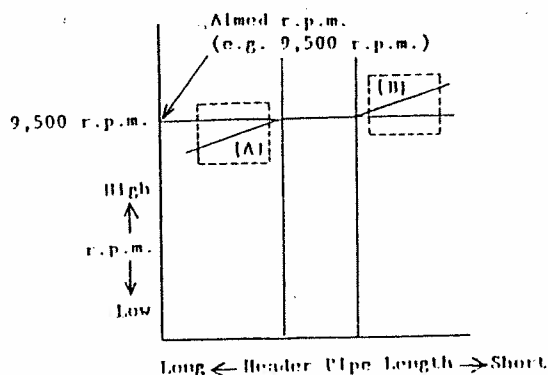

Fig. 3
When measured data appear like (A) or (B) in the Fig. 3, the header pipe length is set far off of the ideal setting. It will be necessary to change the propeller or the header pipe length.